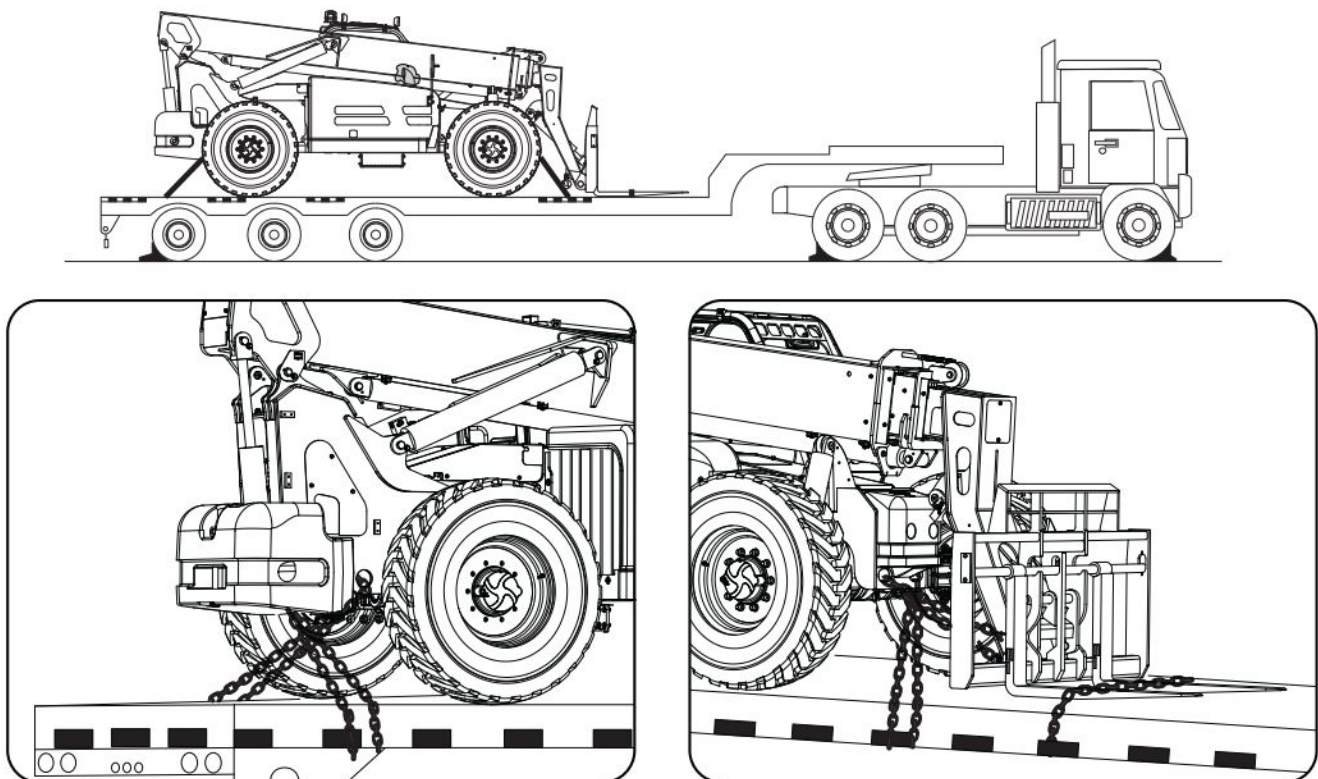
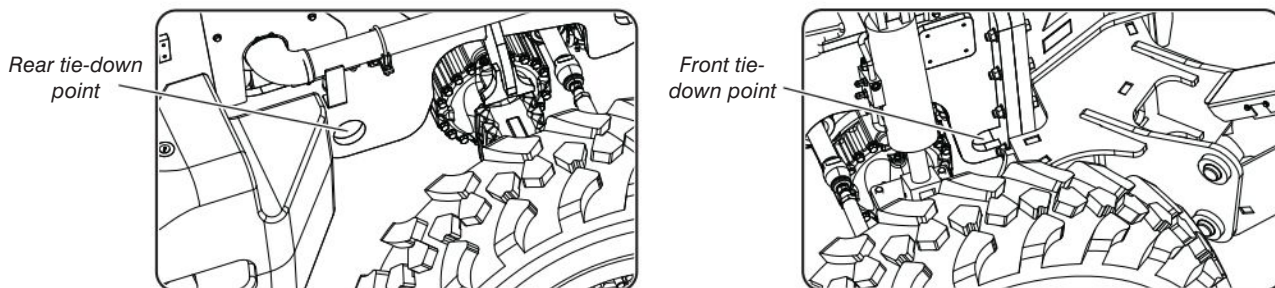

Figure 57 Tie-down points
Figure 58 Front and rear tie-down point locations
10. Anchor down telehandler to transport surface using tie-down points (see Figure 58) and secure the forks to the platform using sufficient straps (see Figure 57).